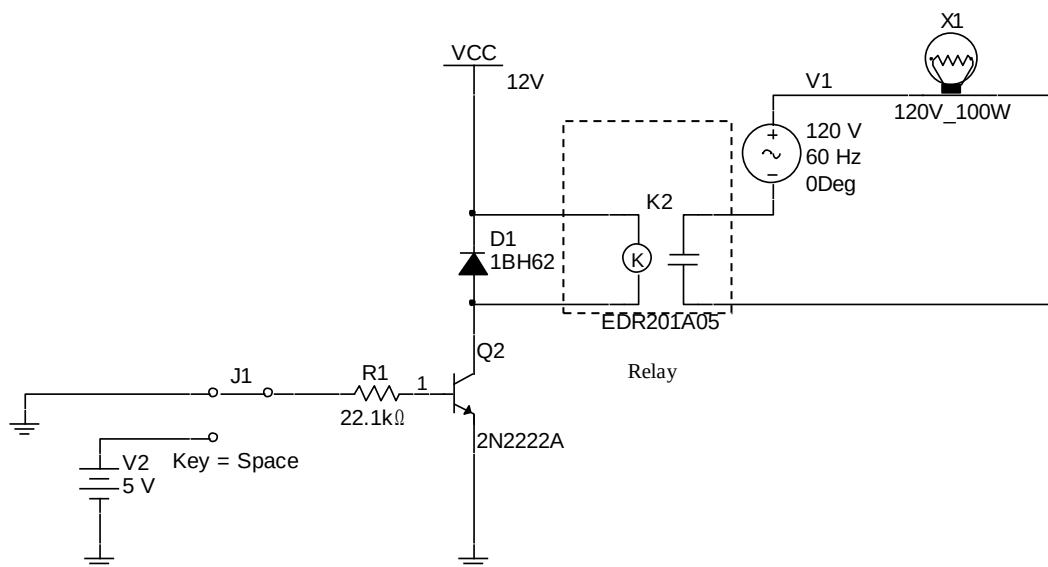

Fig. 7
- (1) Connect the circuit shown in Fig. 7 using Multi-Sim Program. you can find the main devices of this circuit in the following Multi-sim libraries:
- (2) a. By using the switch (in the input of the circuit), feed 5V voltage to the input terminal, then view if the lamp is illuminated (this means that the relay has been turned on (magnetized)), use voltmeter to measure V_{CE} and V_{BE} .